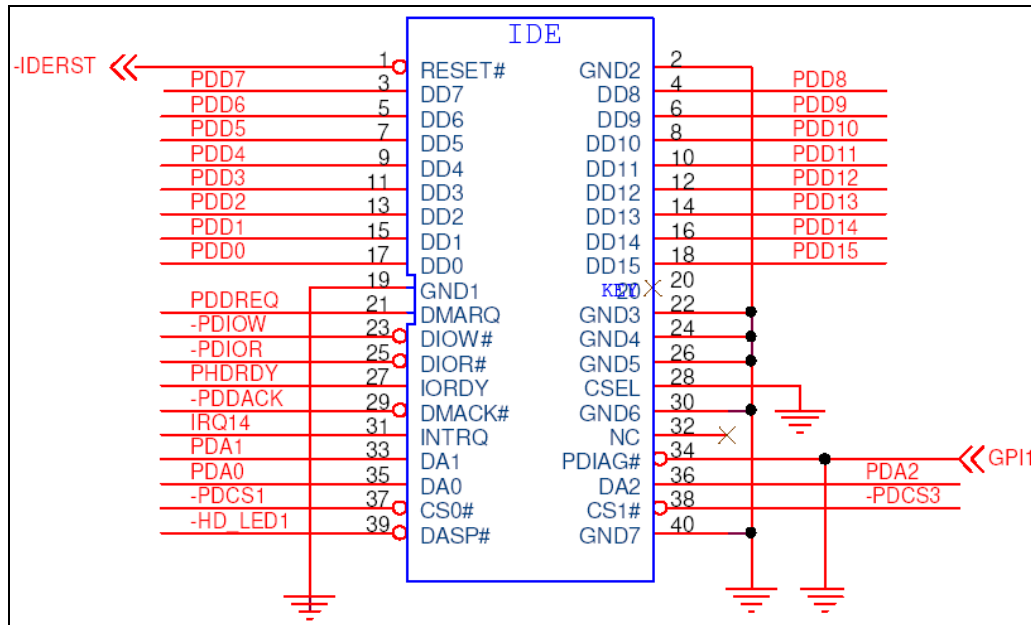

Figure 4-8: IDE Device Connector Locations
- CN Location:** See **Figure 4-8**